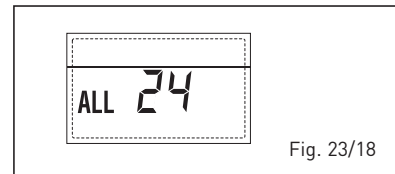

Fig. 23/18
– **ANOMALIA SONDA FERVIDOR SOLAR (S2) “ALL 25” (fig. 23/19)**